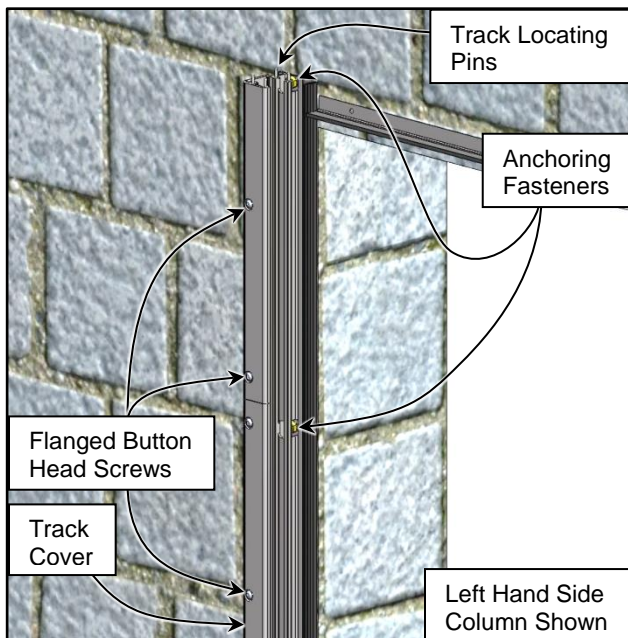
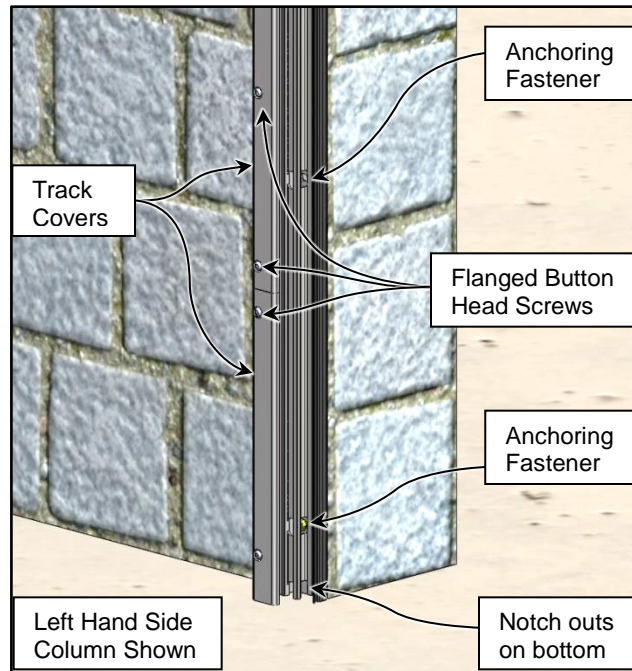

Figure 23
Figure 24
10. Confirm the fit within each side column as shown. Confirm that the anchor fastener holes align w/ the holes in the lower track assemblies and the notch outs are at the bottom. (See Figure 23 and Figure 24)